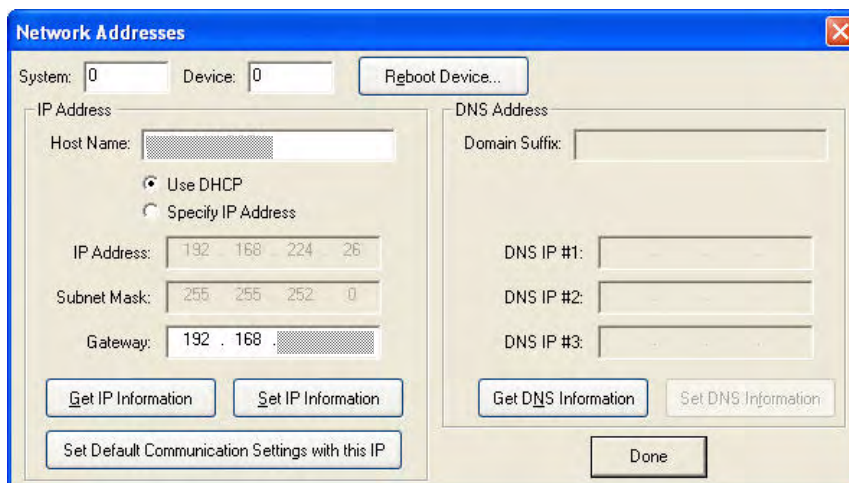

FIG. 90 NetLinx Studio - Network Addresses dialog
- a. In NetLinx Studio, select **Diagnostics > Network Addresses** to open the *Network Addresses* dialog (FIG. 90).